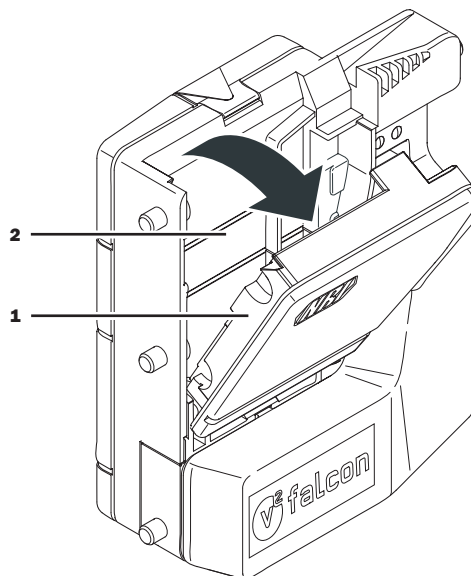

Fig. 10: Unfolding the flight deck of the coin validator
- 2 Carefully unfold the flight deck [Fig. 10/1] on the coin insert funnel and hold it open.
- 3 Clean the coin runway [Fig. 10/2] in the coin validator using compressed air, a soft brush or cloth.